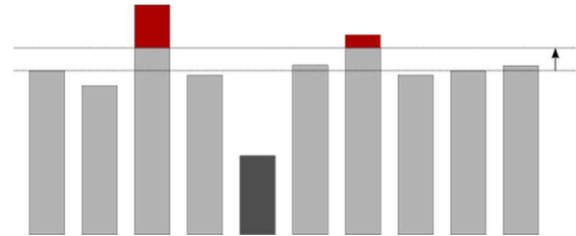

Figure 7: Active balancing type 2
- Active balancing type 2 (see Figure 7): Exceeding the maximum difference to the average value of cell stresses. The low cell does not respond.